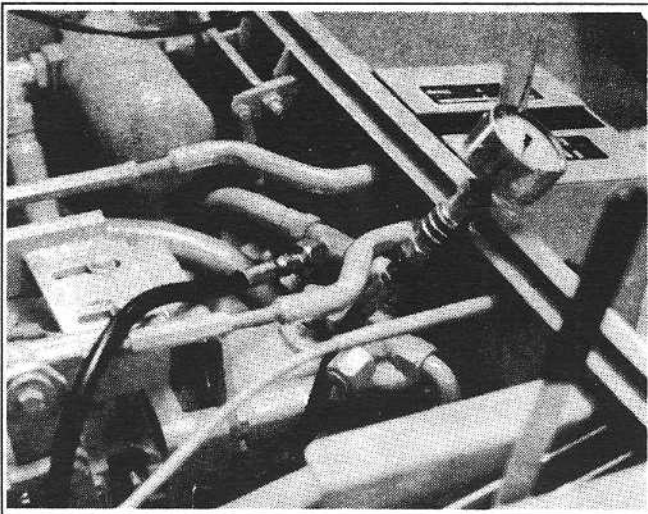

Figure 5-6
2. Install 0-500 PSI (0-34.5 bar) gauge to charge pressure check port. (See charge pressure check for location.) (See figure 5-6)